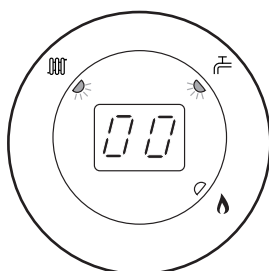
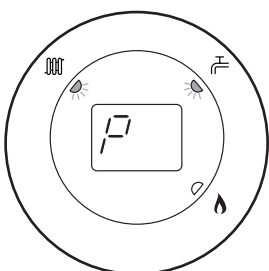

Fig. 65
Fig. 66
7. Turn CH temperature control knob fully clockwise. As the knob is turned the display will change from '0' to '00' (Fig. 65) indicating maximum rate, then revert to 'P' alternating with the current boiler temperature (Figs 66 & 67).